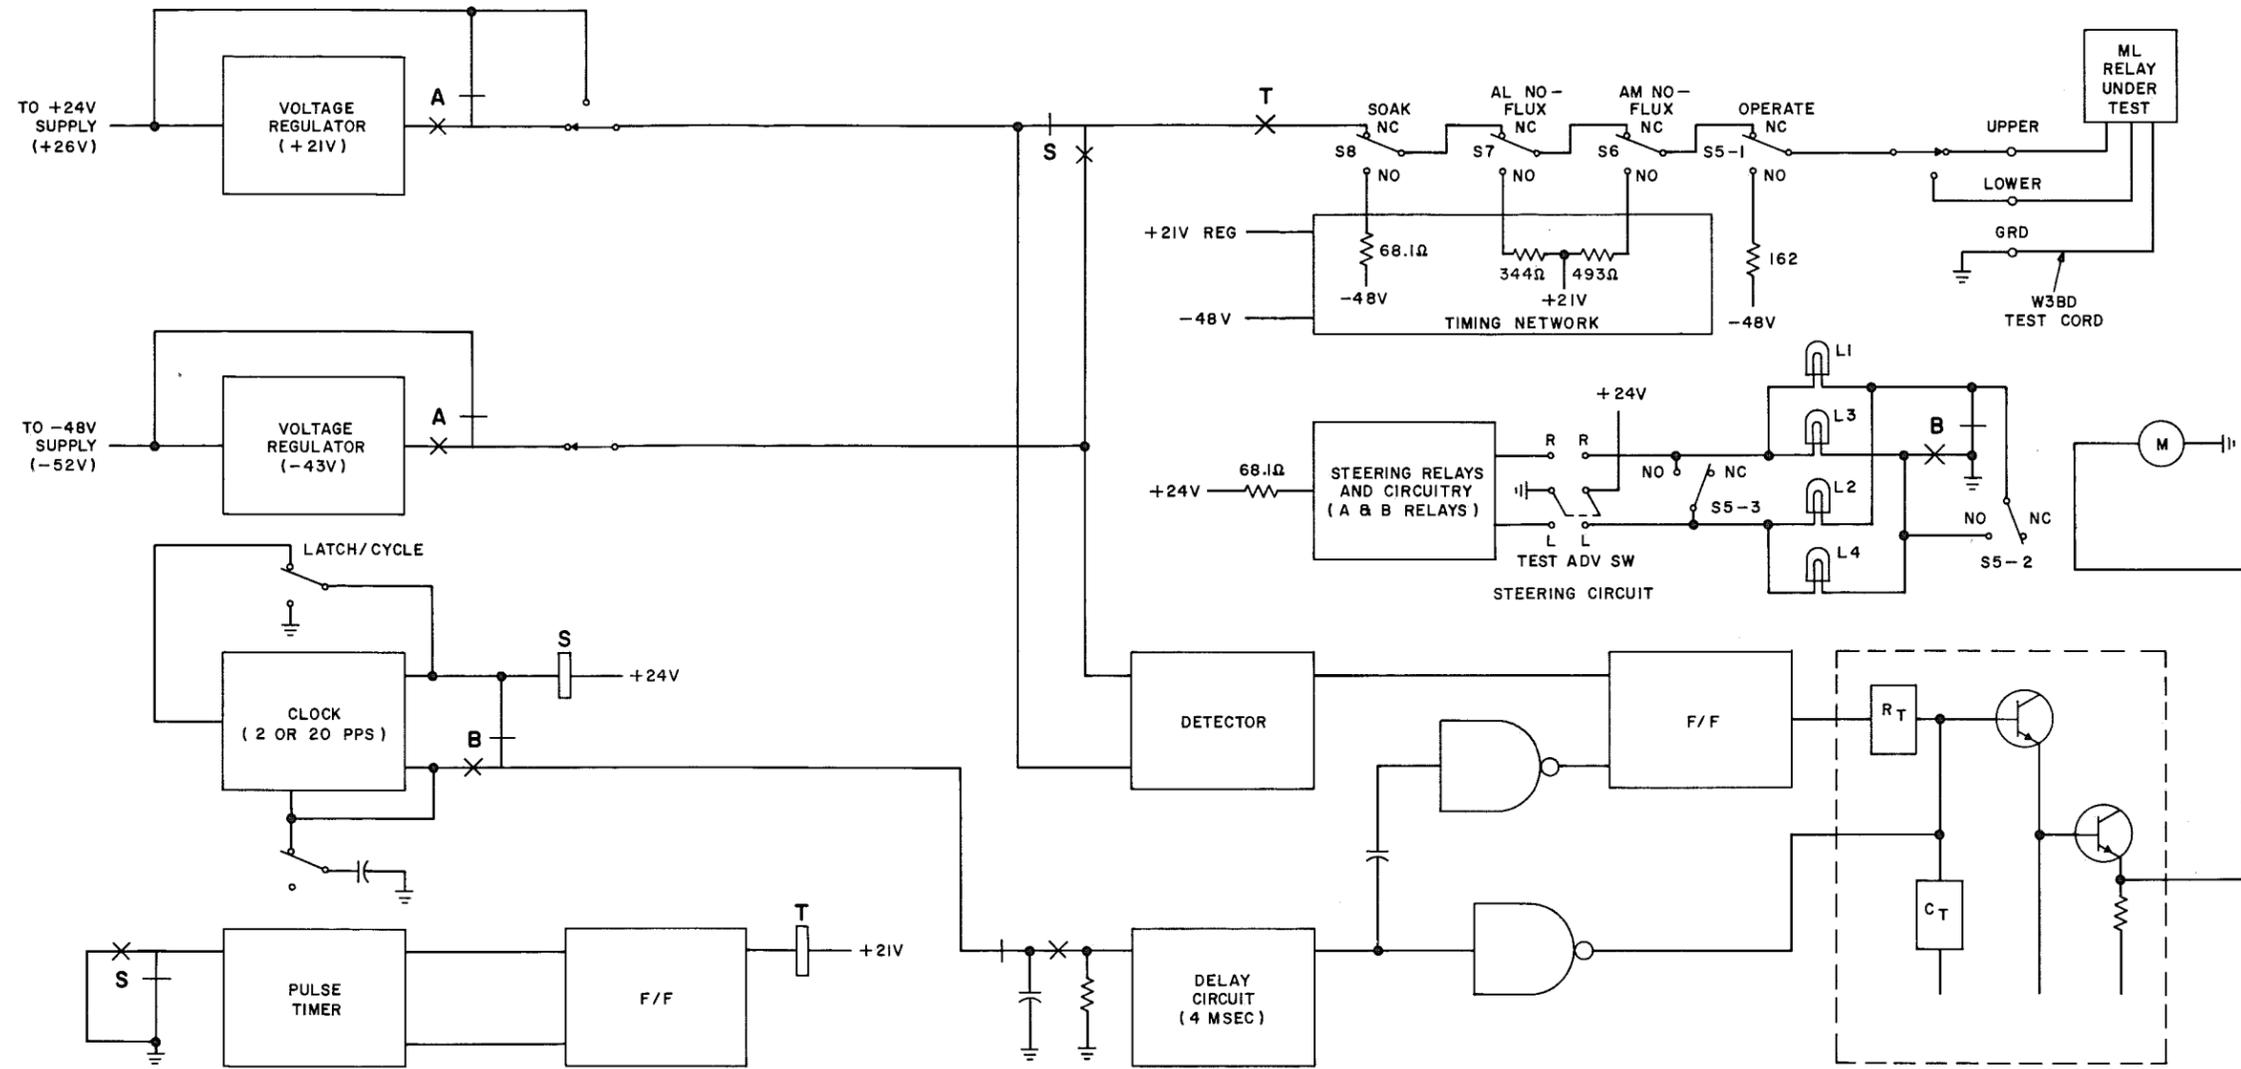

Fig. 3—Relay Timing Test for AM-Type Relay, Simplified Block Diagram
**6.01** Fig. 3 is a block diagram of the relay timing test showing the electrical connections to the AM-type relay. With the LATCH/CYCLE switch in the CYCLE position, an interval of time (operate or release) can be read on the meter. Section 040-505-501 specifies the requirements for each timing test.